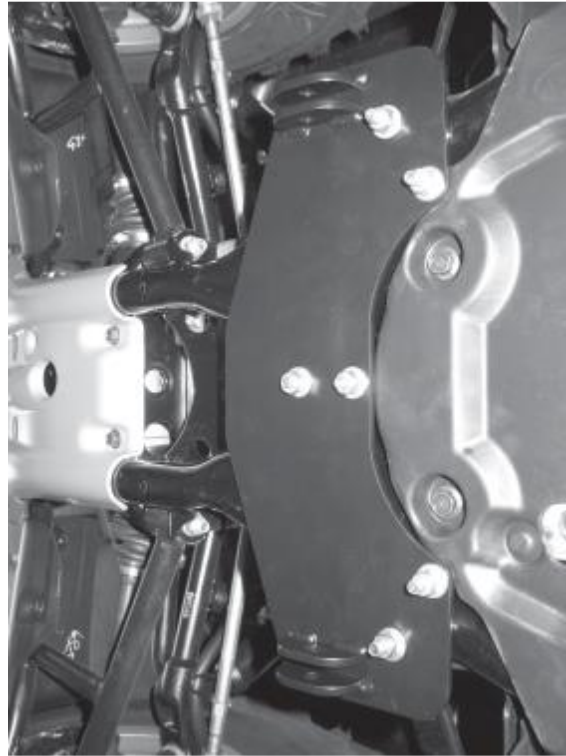

Figure 4
4. Fasten the plow mount plate to the ATV with the u-bolts, flat washers, and lock nuts, Figure 4. Align the plow mount plate with the ATV. Tighten the u-bolts uniformly to 10lb-ft.